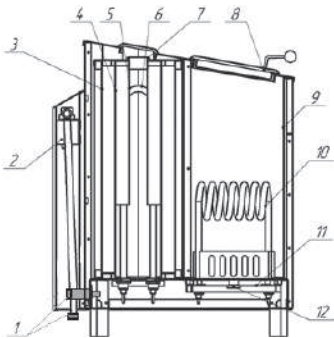

Fig. 3 Design of heater
Through a heat-insulated water tank (no. 3 in Fig. 3, 4), a box-section channel is laid (no. 4, Fig. 3, 4), in which tubular heating elements (no. 6, Fig. 3, 4) are installed. Water is heated up to its boiling due to heat transfer through channel walls, from tubular heating elements to water. In the channel steam ducts are installed (no. 5, Fig. 3, 4), through which steam is transferred to a lower channel part, where it is mixed with air, which incomes from the bottom. Due to convective streams, the air-steam mixture flows upwards, is heated to 300-330 °C and released to the room through a nozzle (no. 7, Fig. 3, 4). The tank is filled and re-filled with water automatically, through a valve on a back of the enclosure. (no. 2, Fig. 3, 4).
The stone heating unit is a heat-insulated steel tank (no. 9, Fig. 3, 4), in which tubular heating elements (no. 10, Fig. 3, 4) are installed. A steam-generating stone is laid into the tank. At the top, a heat insulated door(s) is available (no. 8, Fig 3, 4), which allows either using of some heat for room heating (the door(s) is/are open) or using all the heat for heating of the stone mass (the door(s) is/are closed). The tubular heating elements are installed on a foundation (no. 11, Fig. 3, 4), which is equipped with bimetal thermostats (no. 12, Fig. 3, 4), which cut the power of tubular heating elements after reaching of a certain temperature inside the tank.
1.4.7 Water is supplied to the Electric heater from an external water supply system. Water is supplied and drained via supply hose and drain nipple (no. 1, Fig. 3, 4) in the back Electric heater panel, under a removable case.